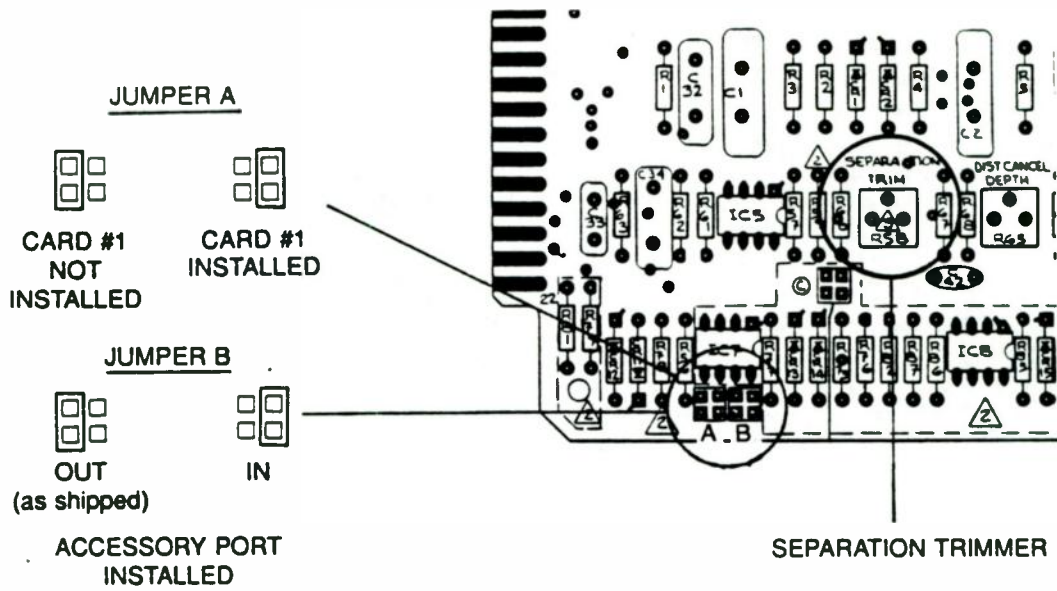

Fig. 1: Jumper Positions, Card #7
- b) Place jumper A on Card #7 in the "CARD 1 INSTALLED" position (see Fig. 1).